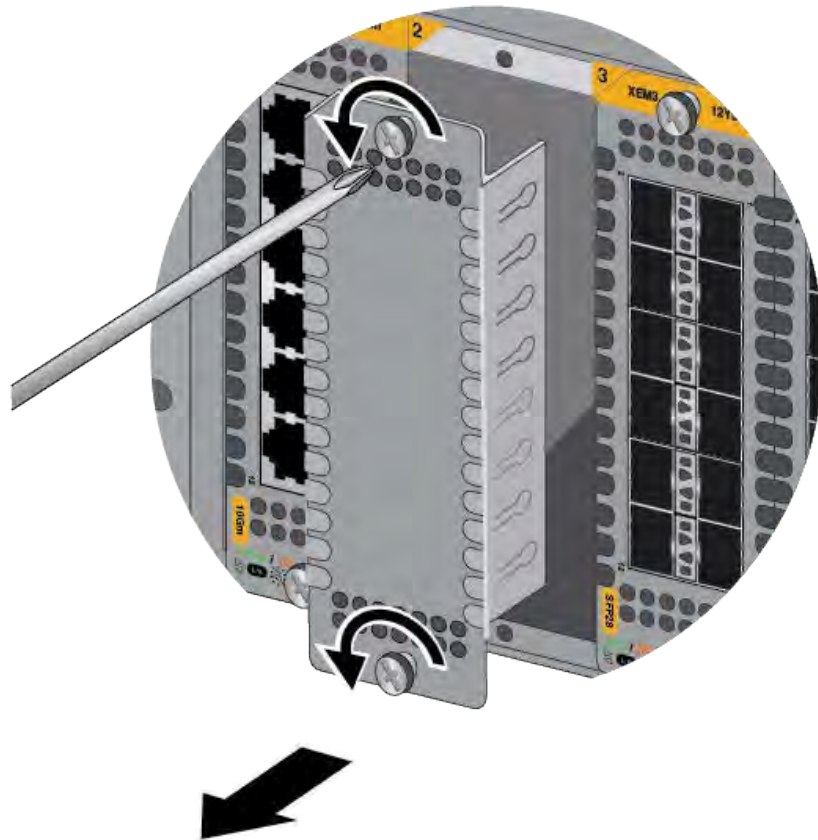

Figure 41. Removing an XEM3 Module Slot Panel
2. If the slot is covered with a slot panel, use a #2 Phillips-head screwdriver to loosen the two captive screws on the panel and remove it from the switch. Refer to Figure 41.